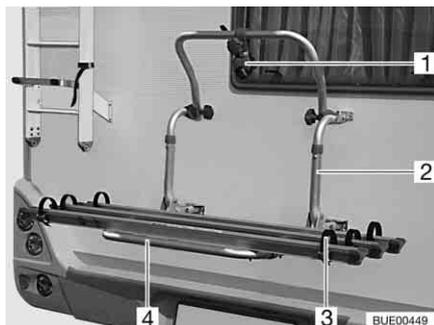

Fig. 3 Bike rack, not lowerable
The bike rack (Fig. 3,2) permits to easily transport 2 bicycles. Expansion for 3 bicycles is possible.
- Fold the telescopic swivel clip (Fig. 3,4) down.
- Place the bicycles on top and secure them with quick straps (Fig. 3,3).
- Fasten the spacer (Fig. 3,1) to the frame of the outermost bicycle.